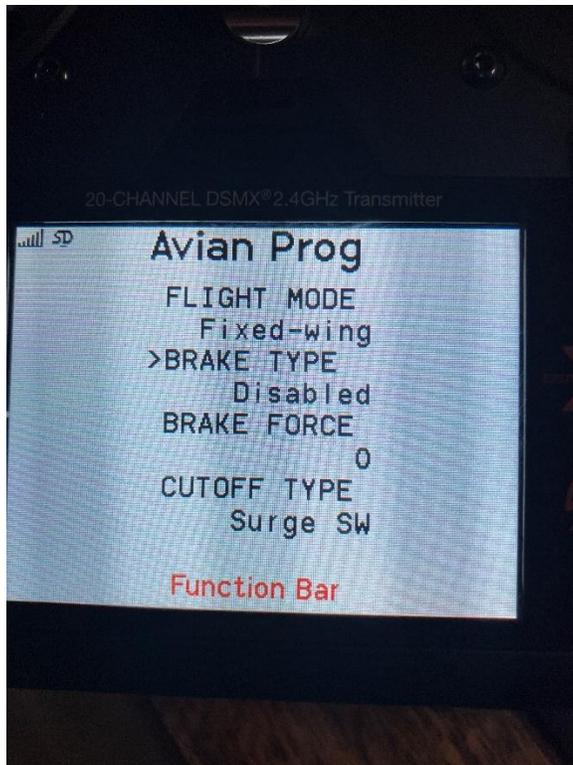

Figure 21.0 First page of the ESC parameter that we can edit.
4. As soon as you see **Step 2**, move the control stick for full up and full right aileron and hold that position. Within a few seconds the screen will change showing a list of parameters that we can begin to edit. This indicates you have successfully entered the programming mode. *Figure 21.0* shows what this screen looks like.